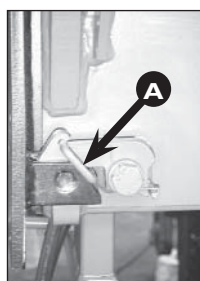

fig. 11
- (!) Always check that the outrigger supports, once in their rest position, are locked in their seat by the safety devices, so as to assure the impossibility of accidental movement. (fig. 11).
- Disengage the locking devices of the outrigger supports by putting the levers **A** from the position of the fig. 11 to the one of the fig. 11a.